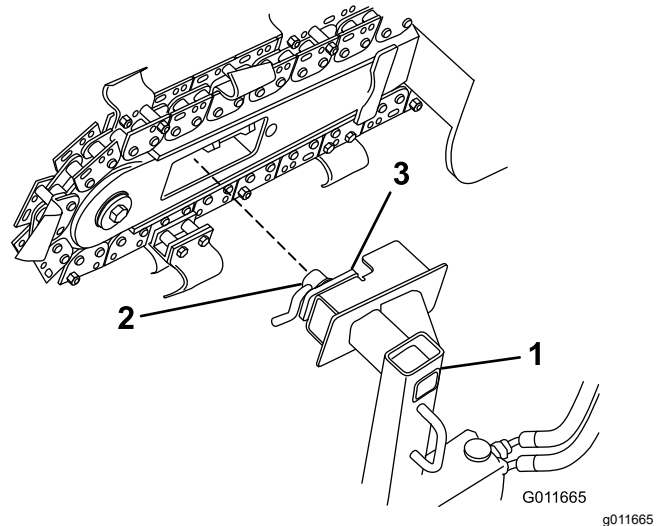

Figure 22
3. Loosen the lever-lock bolt on the drive head and turn the clamp plate so that it is parallel to the drive head (Figure 22).
4. Slide the bore-drive head through the opening in the trencher boom as shown in Figure 22.